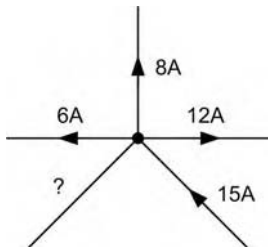

Figure 5.41
3. Determine the unknown current in Figure 5.41.